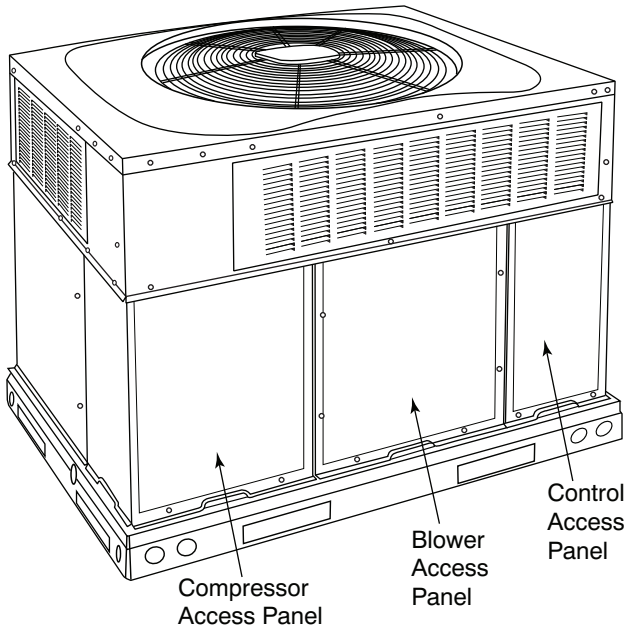

Fig. 31 – Unit Access Panels
An LED (light-emitting diode) indicator is provided on the integrated gas unit controller (IGC) to monitor operation. The IGC is located by removing the control access panel (see Fig. 31). During normal operation, the LED is continuously on (See Table 14 for error codes).
1. Remove control access panel (See Fig. 31).
Remove blower access panel (see Fig. 31). Limit switch(es) are located on the fan partition.
3. Remove control access panel (See Fig. 31).